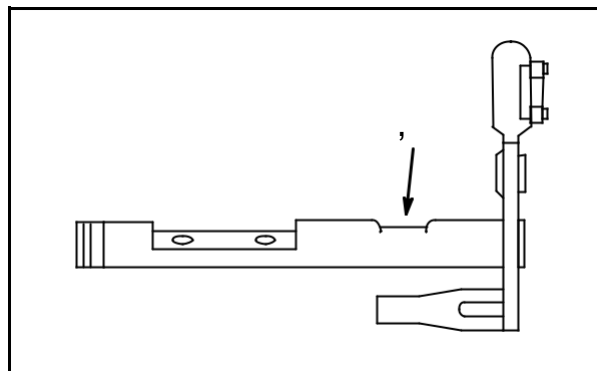

Fig. 22
Inspect throttle shaft and choke shaft for wear (2), **Fig. 22**.